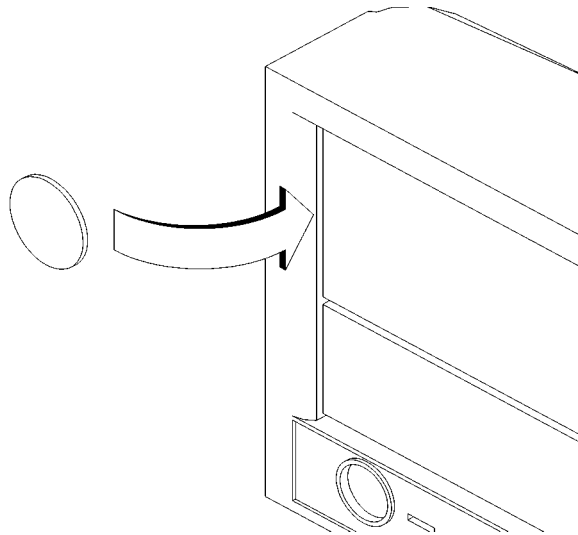

Figure 28
- 1 Remove the disk filler panel from the top location of the bezel by using a coin or other flat, blunt object to pry it from the front, as shown in Figure 28.